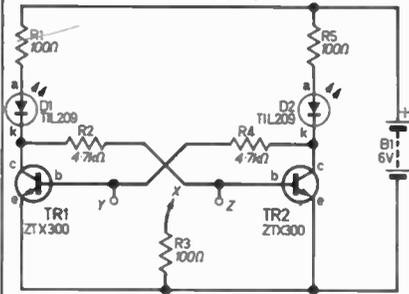

Fig. 5.14
9. Fig. 5.14 shows a circuit using transistors as switches. Wire X can be touched to points Y or Z. Can you work out what happens if X is touched to Y, to Z, to Y, to Z, and so on, alternately? (Hint: you could try setting it out on *Minilab* to see what it does.)